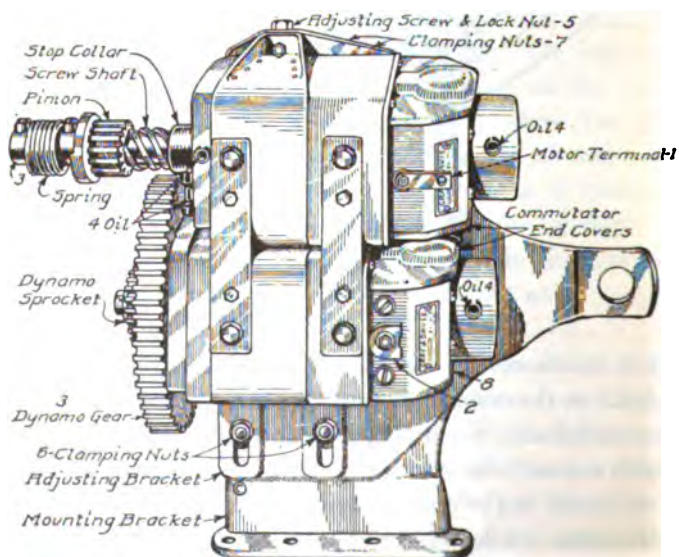

Fig. 385. Details of Gray & Davis Generator Unit for Ford Starter
**Mounting Starter-Generator.** In Fig. 385 is shown the starter-generator unit, for which note the following instructions: See that